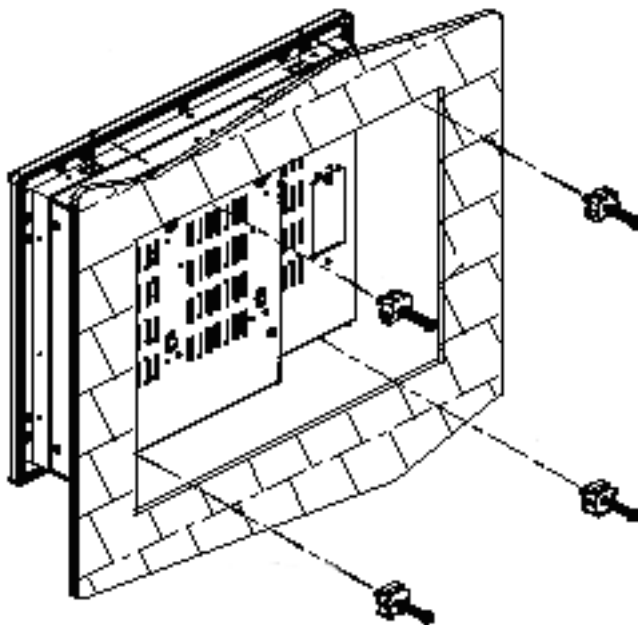

Figure 5-11: Insert the Monitor
Step 3: Slide the monitor through the hole until the metal frame is flush against the panel (Figure 5-11).